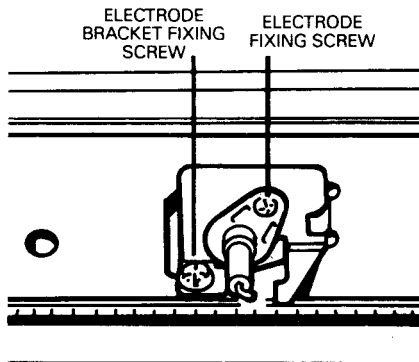

Fig. 10
4. Separate the electrode from the electrode mounting bracket by removing the single securing screw. Transfer electrode lead to new electrode (Fig. 10).